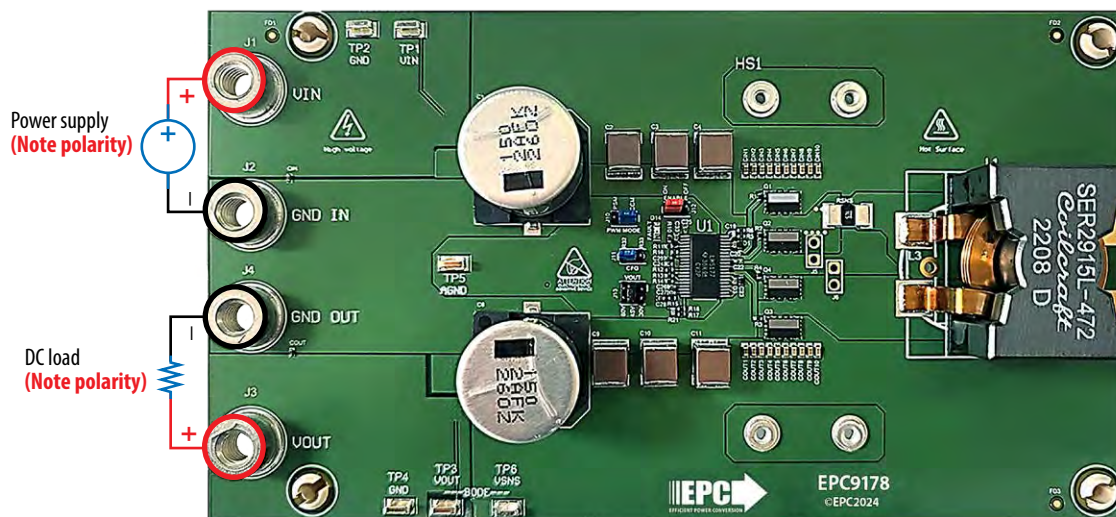

Figure 5: Power connections to the EPC9178 demonstration
To operate the EPC9178, connect the input supply and the load as shown in figure 5.
The EPC9178 demonstration board is easy to set up to evaluate the performance of the EPC2306 GaN FETs. Refer to figures 5, 6, 7, 8, & 9 for proper connection and measurement setup and follow the procedure below to operate the board:
1. With power off, connect the input power supply between VIN (J1) and GND (J2). Pay careful attention to the polarity of the supply as shown in figure 5. A shunt can be inserted in series with the positive supply to measure the input current.
3. With power off, connect a suitable load between VOUT (J3) and GND (J4). Pay careful attention to the polarity as shown in figure 5.